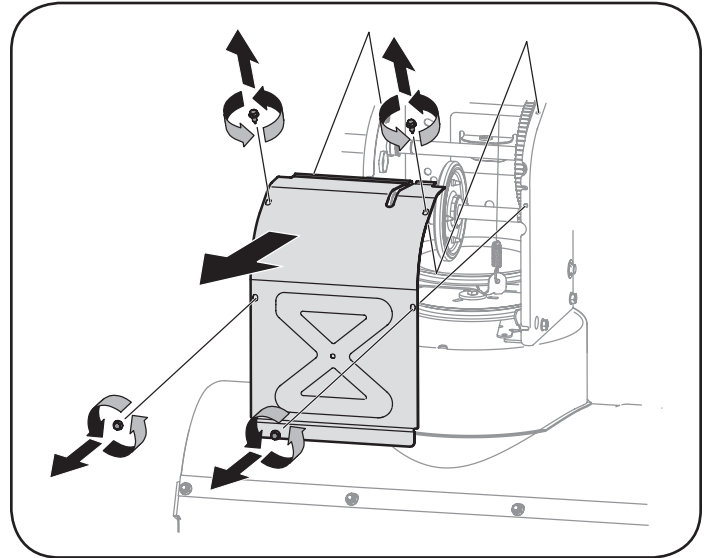

Figure 32
5. Remove the frame cover from the underside of the snow thrower by removing the self-tapping screws which secure it. See Figure 32.
3. Remove the frame cover from the underside of the snow thrower by removing the self-tapping screws which secure it. Refer to Figure 32.